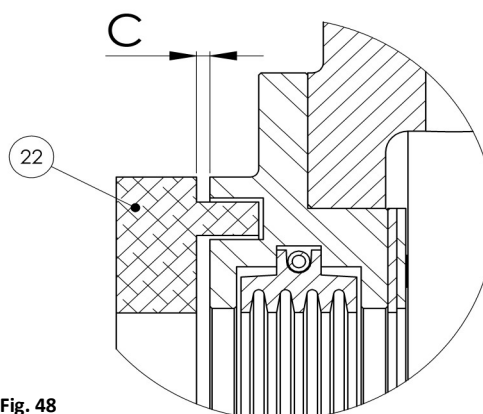

Fig. 48
- Adjust the clearance "c", see (fig. 48).